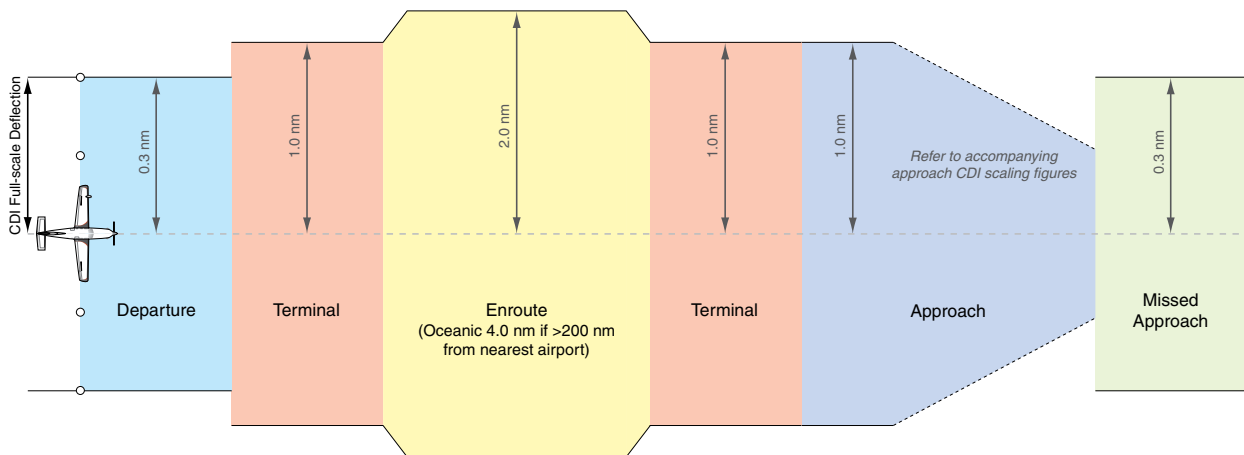

Figure 2-29 Automatic CDI Scaling
When set to Auto (default), the GPS CDI scale automatically adjusts to the desired limits based upon the current phase of flight (Figure 2-29, Table 2-1).
- During **approach**, the CDI scale ramps down even further (see Figures 2-29 and 2-30). This transition normally occurs within 2.0 nm of the final approach fix (FAF). The CDI switches to approach scaling automatically once the approach procedure is activated or if Vectors-To-Final (VTF) are selected.